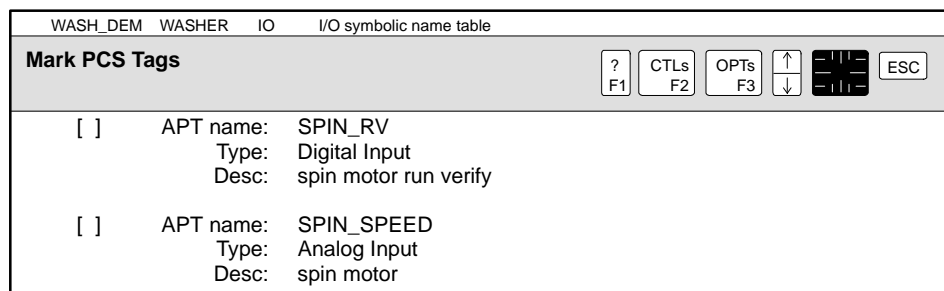

Figure 8-2 Example of Marking OSx Tags
1. Place the cursor on the hierarchy location (unit, CFC, table) and press K, or use the **OPTs** icon to select **Mark PCS Tags**. A screen similar to Figure 8-2 appears.